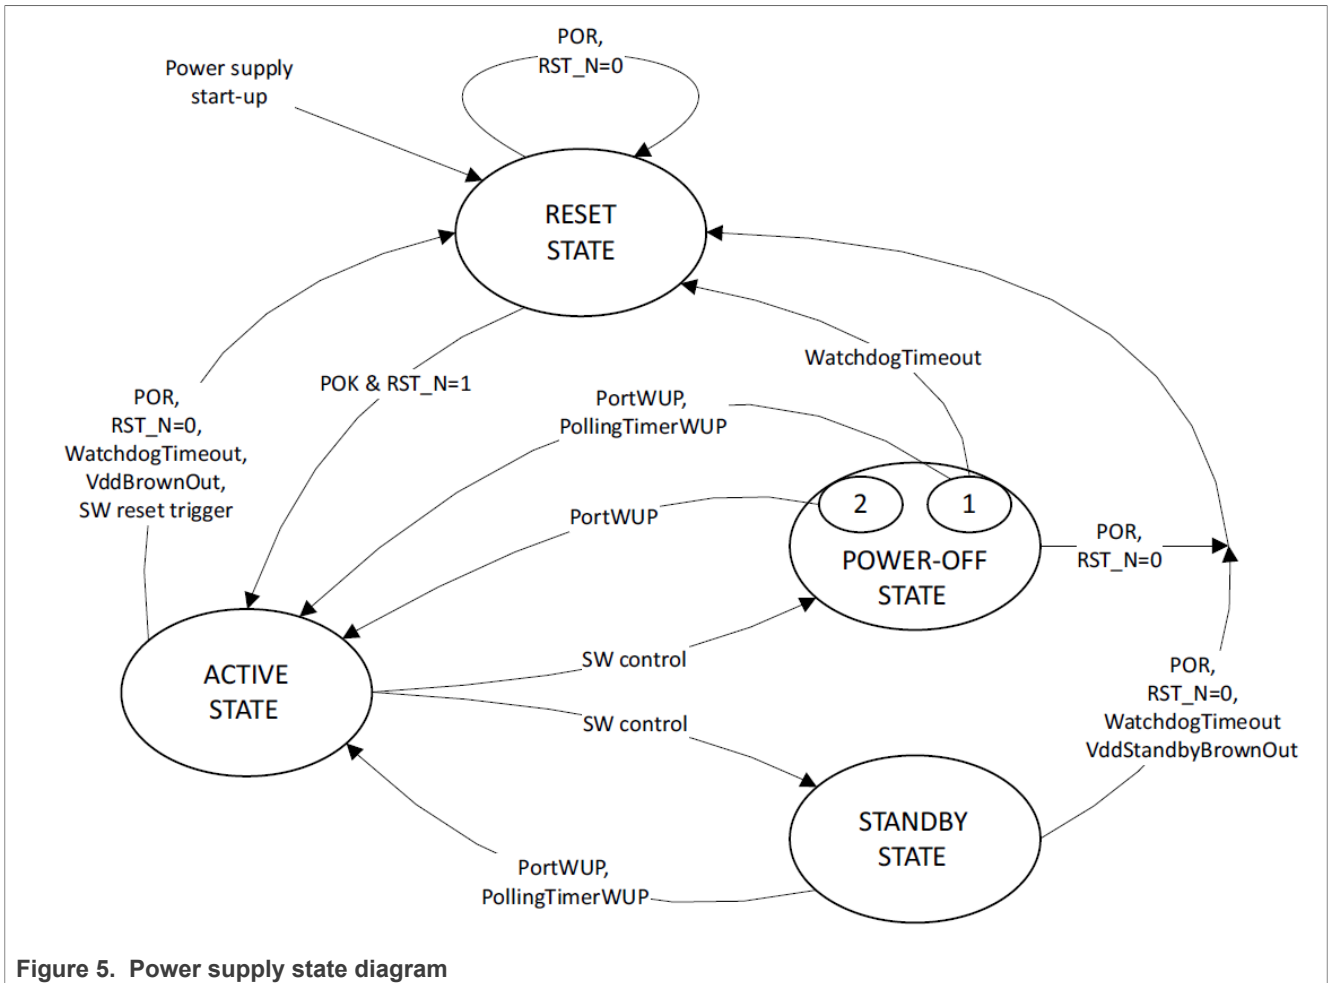

Figure 5. Power supply state diagram
The state diagram for the functional power supply states is given in Figure 5:
- Low noise figure: 5 dB typically @ 434 MHz